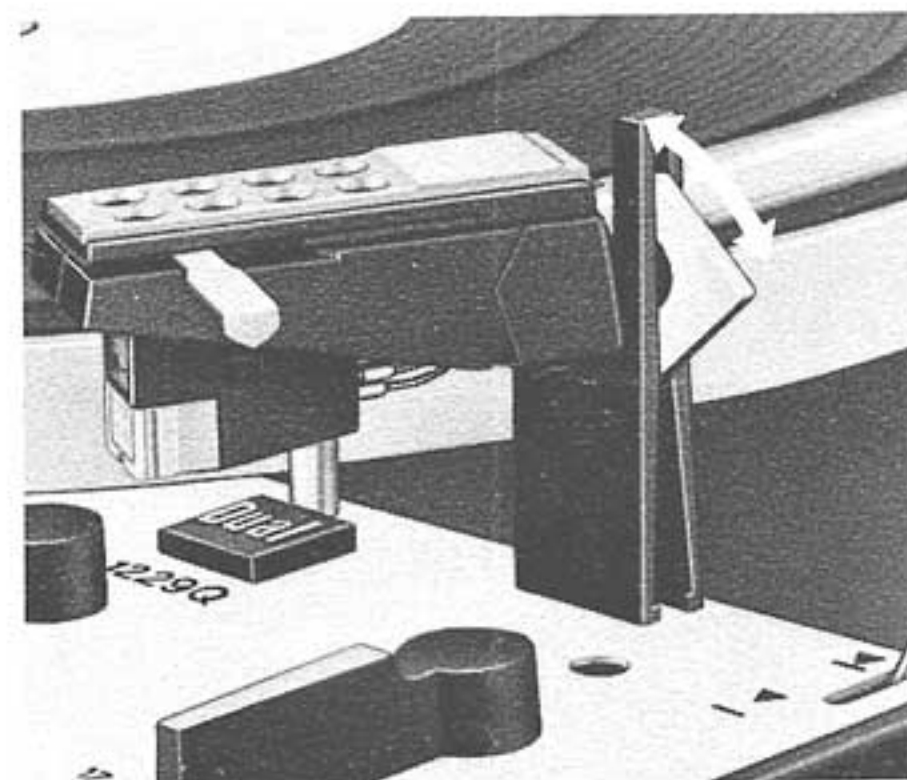

Fig. 7
Select the correct turntable speed ①, set the record-size selector to match the diameter of the record on the turntable (17, 25 or 30 cm, or 7, 10 or 12 inches), and unlock the tonearm (Fig. 7). The unit is now ready to play.
Note: At the end of a record, or at the end of the last record of a stack, the return of the tonearm and switch-off are automatic. It is advisable to lock the tonearm in place (Fig. 7) after turning off the system.